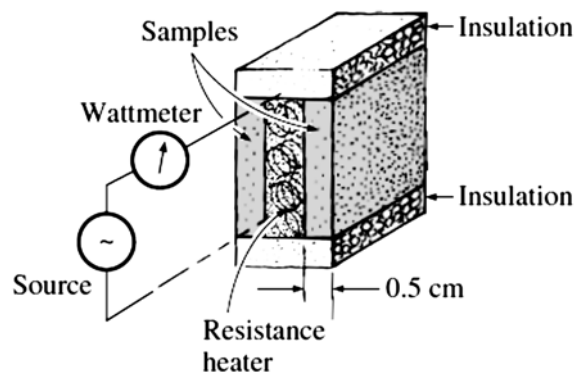

Figure Q1[a]
- Q1. [a] One way of measuring the thermal conductivity of a material is to sandwich an electric thermo foil heater between two identical rectangular samples of the material and to heavily insulate the four outer edges, as shown in the Figure Q1[a]. Thermocouples attached to the inner and outer surfaces of the samples record the temperatures. During an experiment, two 0.5-cm-thick samples 10 cm X 10 cm in size are used. When steady operation is reached, the heater is observed to draw 35 W of electric power, and the temperature of each sample is observed to drop from 82°C at the inner surface to 74°C at the outer surface. Calculate the thermal conductivity of the material at the average temperature.